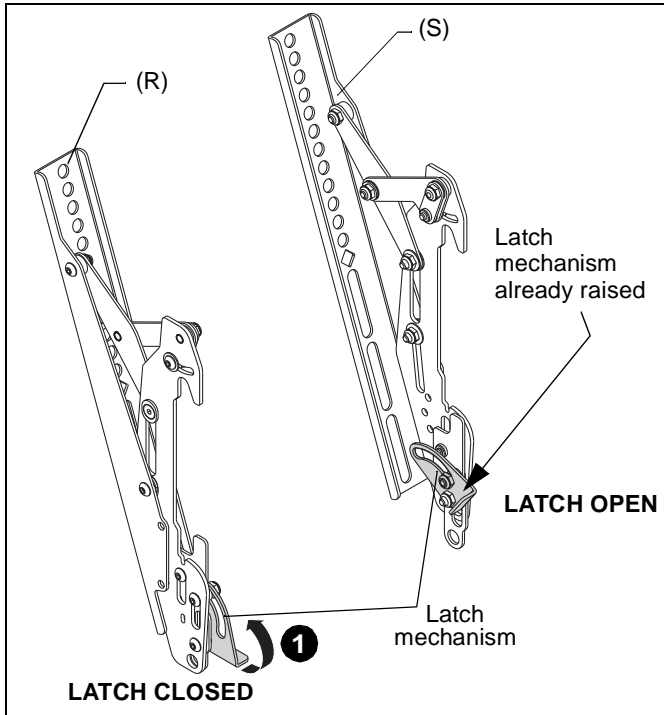

Figure 1
1. Raise the latch mechanism on both interface brackets (R and S) to the **OPEN** position. (See Figure 1)
1. Ensure that the latch mechanisms on interface brackets (R and S) are already raised to the OPEN position. (See Figure 1)